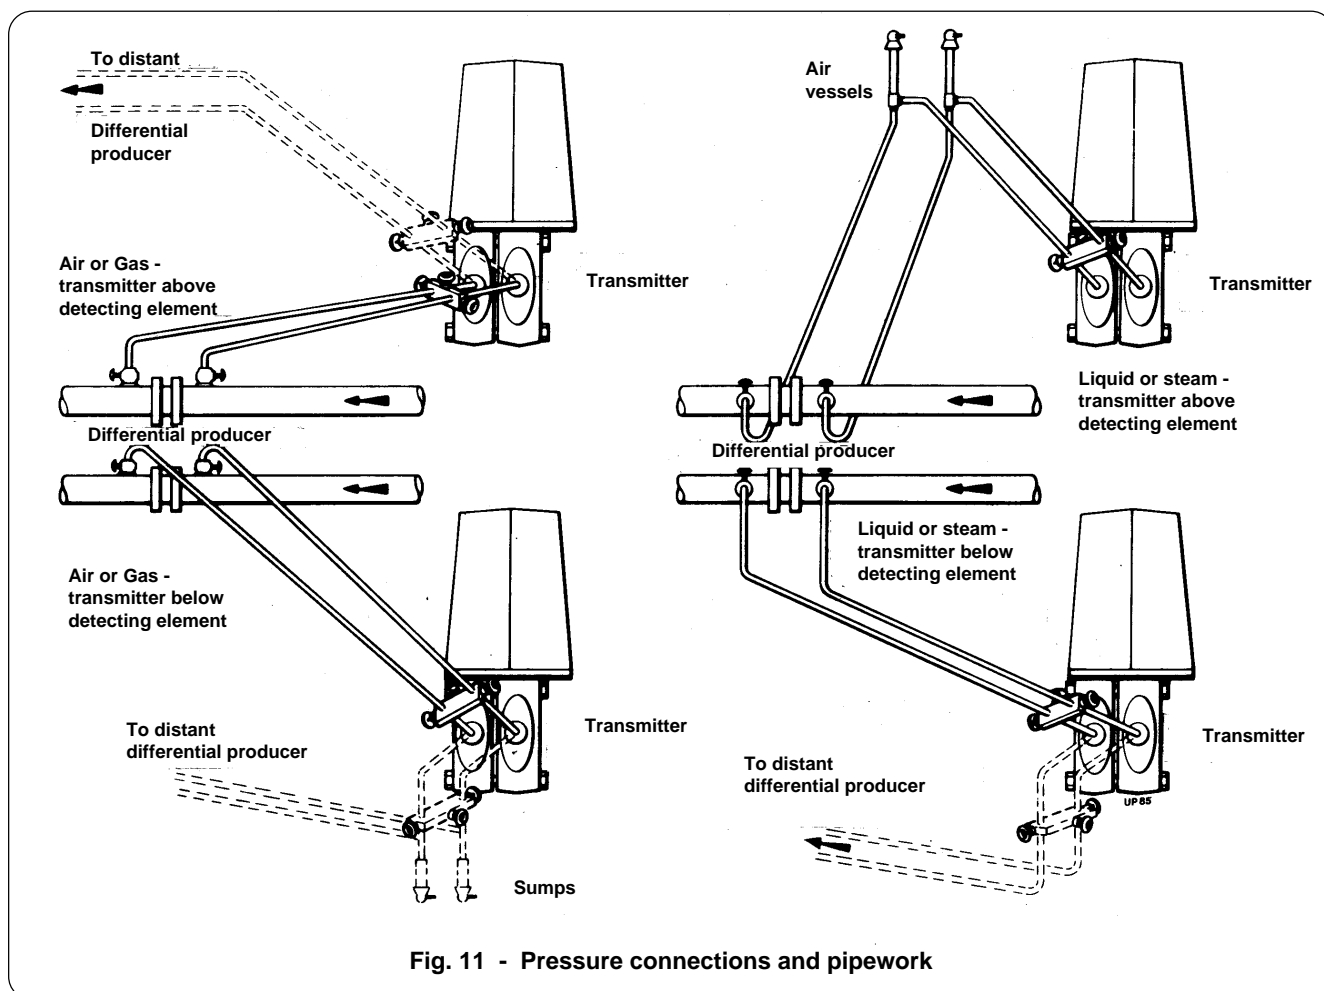

Fig. 11 - Pressure connections and pipework
Pressure connections and pipework (Fig. 11)
Fig. 11 gives a typical piping arrangement for the transmitter when used in conjunction with an orifice plate in the flow main. The diagrams show the positions of the high (upstream) and low (downstream) connections in the detecting element. A shut-off valve should be included in each connection to the main and a by-pass (equalizing) valve connected across the inputs to the transmitter as shown. Alternatively a valve manifold (54 mm or 2.125 inches input centres) may be used.
Putting into service (Fig. 11)
- Fully open the by-pass (equalizing) valve (Fig. 11) and then crack open the valve to the high pressure (upstream) side. For liquid measurement, any air trapped in the measuring unit must be vented via the vent valves.